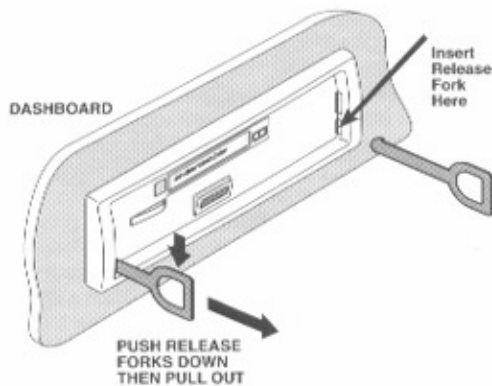

Figure 12. Removing the RX-779.
- To remove the unit, remove the front panel first (refer to Section "Installing and Removal of Front Panel". Unfasten the metal strap from the rear of the unit. Insert two release forks into the mounting slots (see Figure 12) to engage the spring-loaded lockers. Press the release forks downward and pull the unit out of the mounting sleeve. Disconnect wiring.